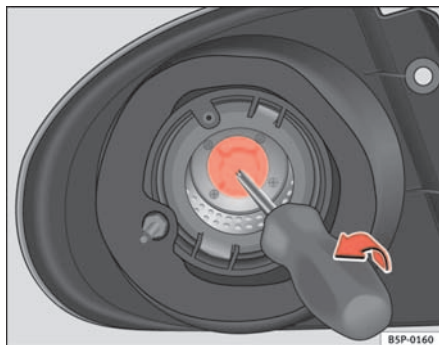

Fig. 191 Indicator lights
- Pull out the lamp holder from the turn signal using a screw driver in the direction of the arrow (see ⇒ fig. 191).